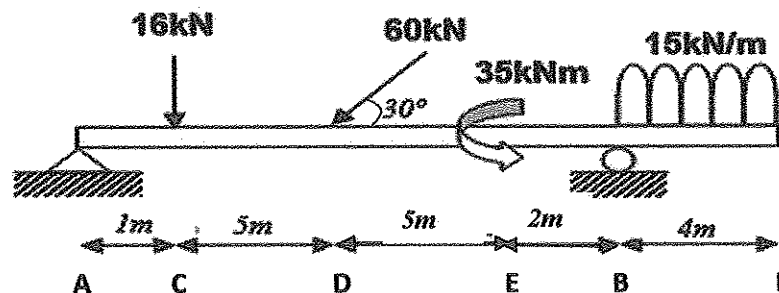

Figure A2(c) / Rajah A2(c)
- c) An overhanging beam is loaded as shown in Figure A2(c). Sketch a shear force diagram (SFD) and bending moment diagram (BMD) of the beam if the reaction force at A and B are 24.38kN and 81.62kN respectively.